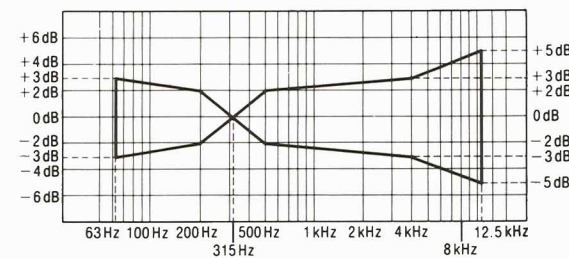

Fig. 6
2. Assure that the frequency response is within the range shown in Fig. 6 for both L-CH and R-CH.